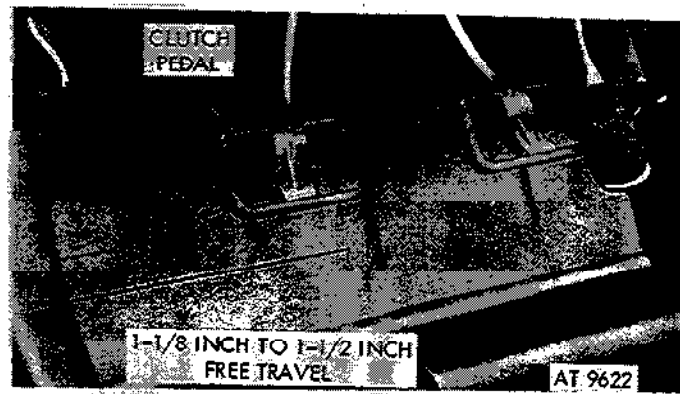

Figure 2-78. Clutch pedal free travel.
- (3) Depress clutch pedal and check for pedal free travel of $1\frac{1}{8}$ inches to $1\frac{1}{2}$ inches (fig. 2-78).